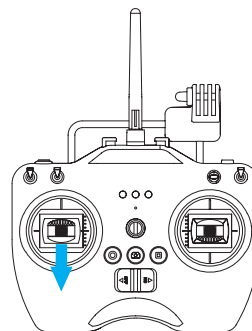

Figure 22
**Method 2 (Figure 22):** After the quadcopter lands, toggle the left joystick to the lowest position and hold for 3 seconds to stop the motor.